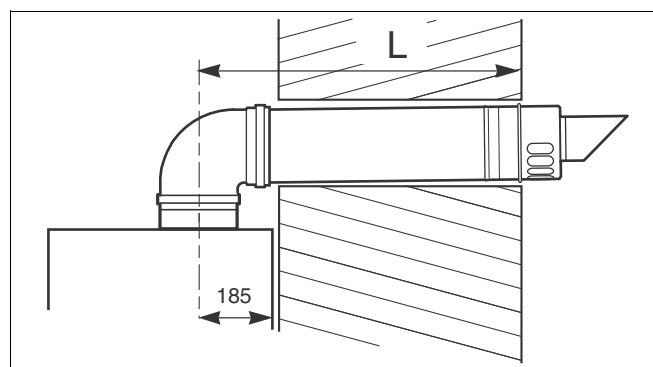

fig. 17 Flue length - rear
- Measure the flue length L. Refer to figures 17 and 18.